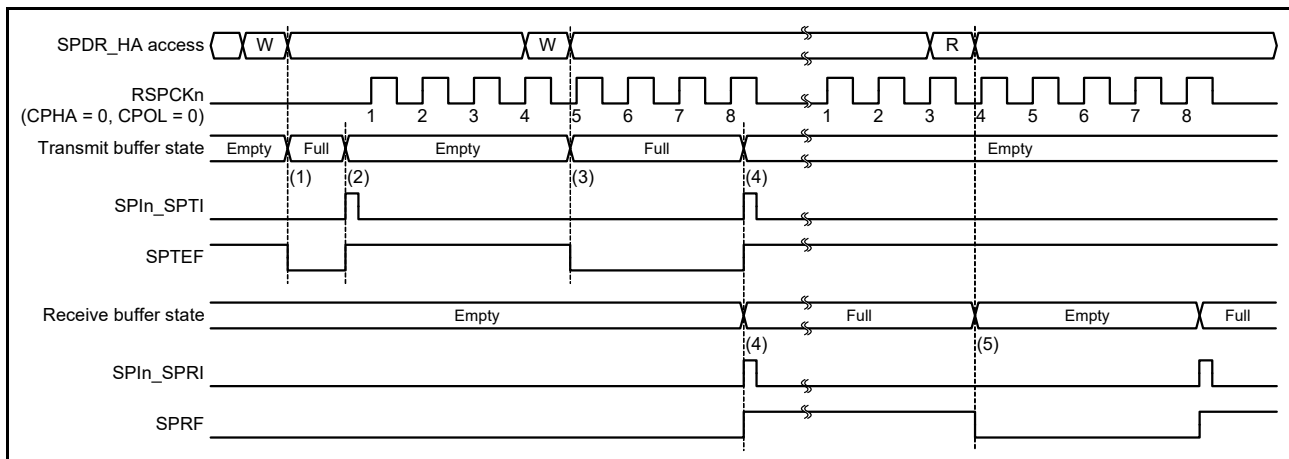
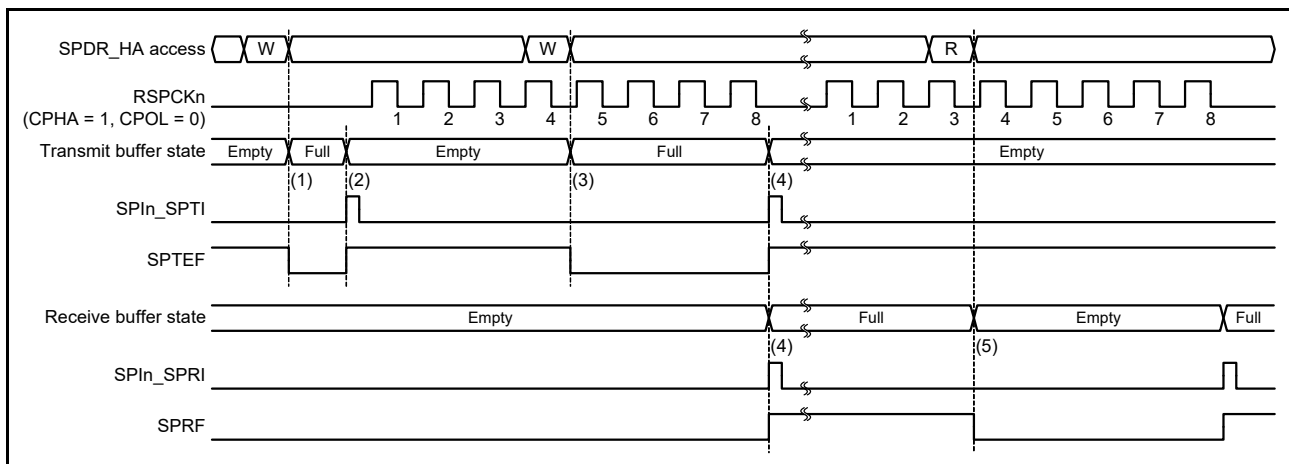

Figure 30.26 Operation example of SPIIn_SPTI and SPIIn_SPRI interrupts when CPHA = 0 and CPOL = 0
Figure 30.27 Operation example of SPIIn_SPTI and SPIIn_SPRI interrupts when CPHA = 1 and CPOL = 0
Figure 30.26 and Figure 30.27 show operation examples of the transmit buffer empty interrupt (SPIn_SPTI) and the receive buffer full interrupt (SPIn_SPRI). The register accesses shown in these figures indicate the conditions of access to the SPDR/SPDR_HA register, where W denotes a write cycle and R a read cycle. In Figure 30.26, the SPI performs an 8-bit serial transfer when the SPCR.TXMD bit is 0, the SPCMD0.CPHA bit is 0, and the SPCMD0.CPOL bit is 0.
In Figure 30.27, the SPI performs an 8-bit serial transfer in which the SPCR.TXMD bit is 0, the SPCMD0.CPHA bit is 1, and the SPCMD0.CPOL bit is 0. The numbers given for RSPCKn in the waveform represent the number of RSPCK cycles, such as the number of transferred bits.
The operation of the SPI at timings (1) to (5) in Figure 30.27 is as follows:
- (1) When transmit data is written to SPDR/SPDR_HA with the transmit buffer of SPDR/SPDR_HA empty and data for the next transfer not set, the SPI writes data to the transmit buffer and clears the SPSR.SPTEF flag to 0.
- (2) If the shift register is empty, the SPI copies data in the transmit buffer to the shift register, generates a transmit buffer empty interrupt request (SPIIn_SPTI), and sets the SPSR.SPTEF flag to 1. How a serial transfer is started depends on the SPI mode. For details, see section 30.3.10, SPI Operation, and section 30.3.11, Clock Synchronous Operation.
- (3) When transmit data is written to SPDR/SPDR_HA either by the transmit buffer empty interrupt routine, or by the processing of the transmit buffer empty using the SPTEF flag, the SPI writes data to the transmit buffer and clears the SPTEF flag to 0. Because the serially transferred data is stored in the shift register, the SPI does not copy the data in the transmit buffer to the shift register.
- (4) When the serial transfer ends with the SPDR/SPDR_HA receive buffer empty, the SPI copies the receive data in the shift register to the receive buffer, generates a receive buffer full interrupt request (SPIIn_SPRI), and sets the SPRF flag to 1. Because the shift register is empty on completion of the serial transfer, when the transmit buffer was full before the serial transfer ended, the SPI sets the SPTEF flag to 1 and copies data in the transmit buffer to the shift register. Even when received data is not copied from the shift register to the receive buffer in an overrun error status, on completion of the serial transfer, the SPI determines that the shift register is empty, so data transfer from the transmit buffer to the shift register is enabled.
- (5) When SPDR/SPDR_HA is read either by the receive buffer full interrupt routine or by the processing of the receive buffer full interrupt using the SPRF flag, the receive data can be read.